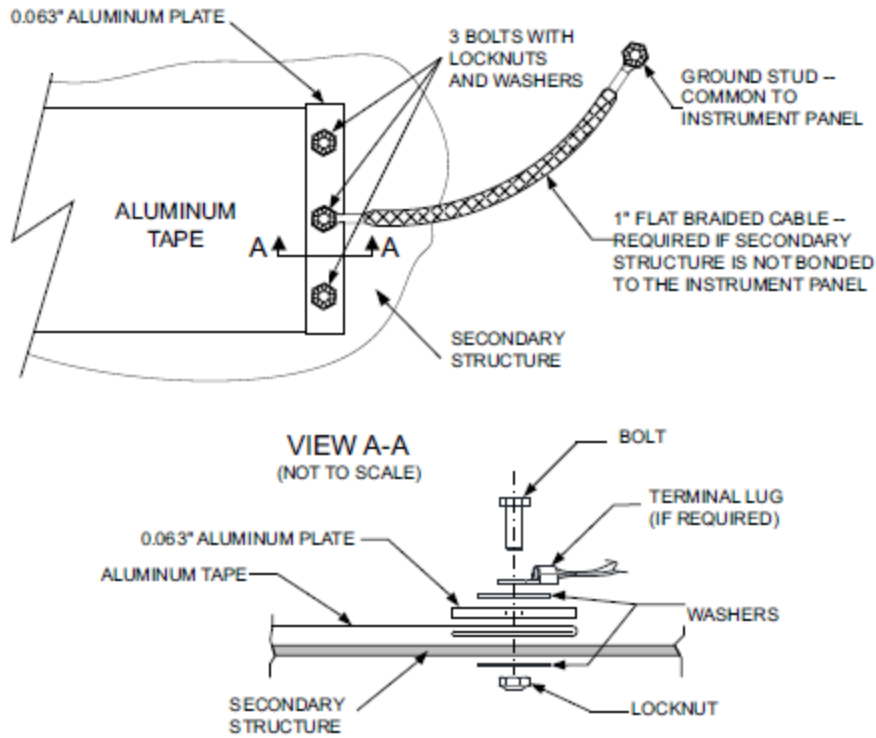

Figure 4-51 Aluminum Tape Ground Termination
8. Fold the end of the tape over twice for added thickness at the prepared grounding location. Refer to Figure 4-51. Apply 3" wide tape over the seam as shown.
11. If a bonding strap will be used to reach the grounding location, secure the end of the tape to the secondary composite surface as shown in Figure 4-51. Note that the procedure for installing mounting bolts applies only to secondary aircraft structures, not to primary structure or structural load-carrying members. The tape shall meet 5:1 length to width ratio if a bonding strap is used. The bonding strap shall be one inch wide and no longer than five inches. Refer to Figure 4-51.
14. Secure the end of the tape in place using a 0.063" piece of aluminum using three bolts and nuts. Refer to Figure 4-51.